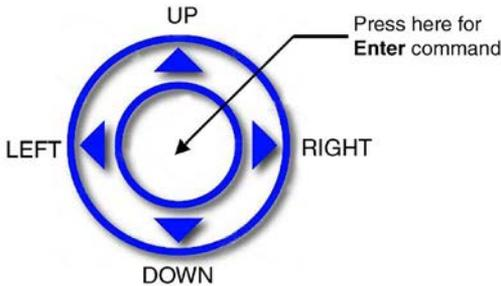

FIGURE 9: Control Joystick
6.3 Instrument Process Information (PI) screens
Based on instrument configuration, different parameters may be displayed in the Process Information (PI) screen by moving the control joystick (see **Figure 9**) **Up or Down (DN)**.